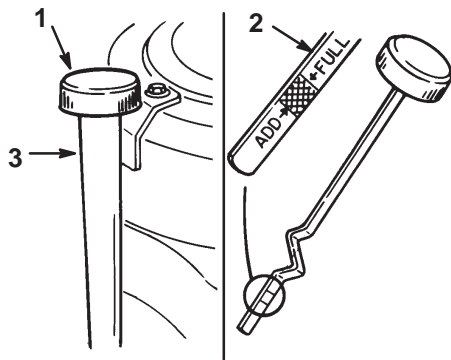

Figure 25
2. Clean around the oil dipstick (Fig. 25) so dirt cannot fall into the filler hole and damage the engine.
3. Unscrew the oil dipstick and wipe the metal end clean (Fig. 25).
4. Slide the oil dipstick fully into the filler tube, do not thread onto tube (Fig. 25). Pull the dipstick out and look at the metal end. If oil level is low, slowly pour only enough oil into the filler tube to raise the level to the “FULL” mark.
5. Slowly pour approximately 80% of the specified amount of oil specified, page 29, into the filler tube (Fig. 25). Now check the oil level; refer to Checking Oil Level, page 30. Slowly add additional oil to bring to “FULL” mark on dipstick.